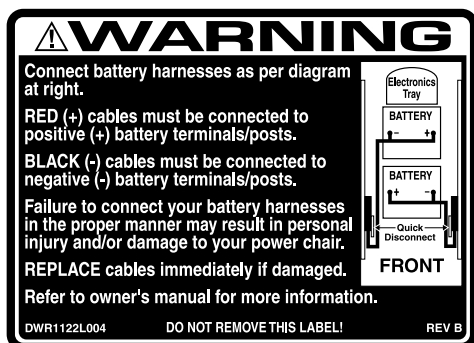

Figure 34. Battery Wiring Diagram Label
A diagram is printed on a decal located on the power chair frame near the battery tray. See figure 34. See the specification table for correct battery specifications.
10. Connect the battery quick disconnects according to the battery wiring diagram label. See figure 34.